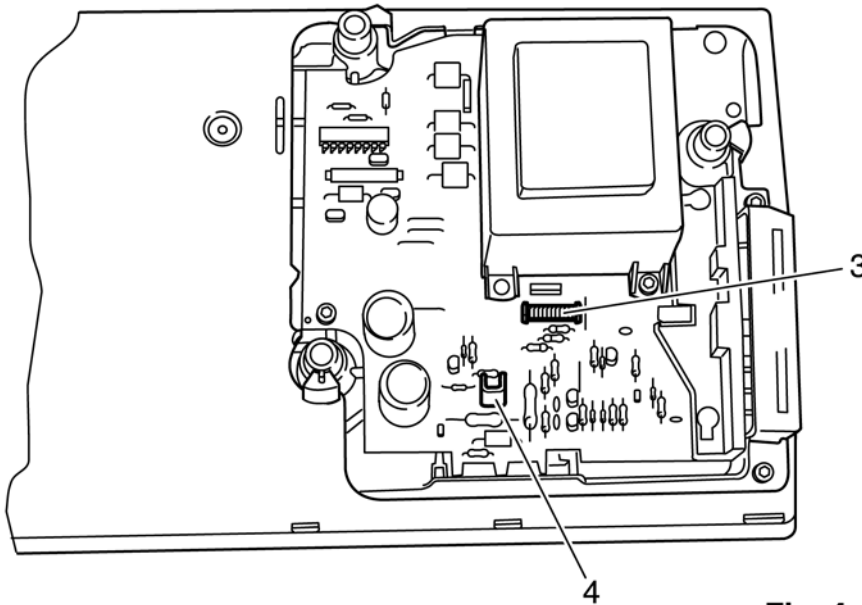

Fig. 4
- Remove 12-wire flat cable 3 and motor cable 4 from the circuit board (fig. 4).